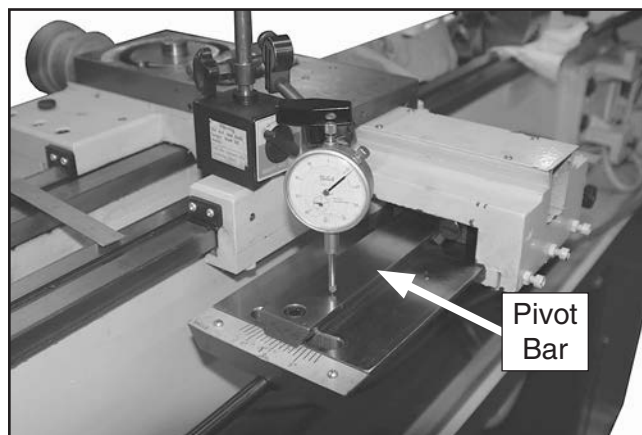

Figure 24. Using a dial indicator to measure slide table tilt.
40. Mount a dial indicator magnetic base on top of the saddle so that the indicator needle is resting on the pivot bar at the tailstock end, as shown in **Figure 24**, then zero the indicator.